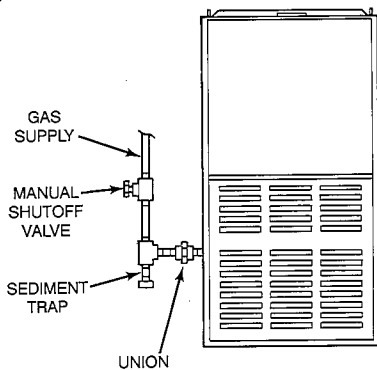

Fig. 10—Typical Gas Pipe Arrangement A89414
- Install a sediment trap in the riser leading to the furnace. The trap can be installed by connecting a tee to the riser leading from the furnace. Connect a capped nipple into the lower end of the tee. The capped nipple should extend below the level of the gas controls. (See Fig. 10.)